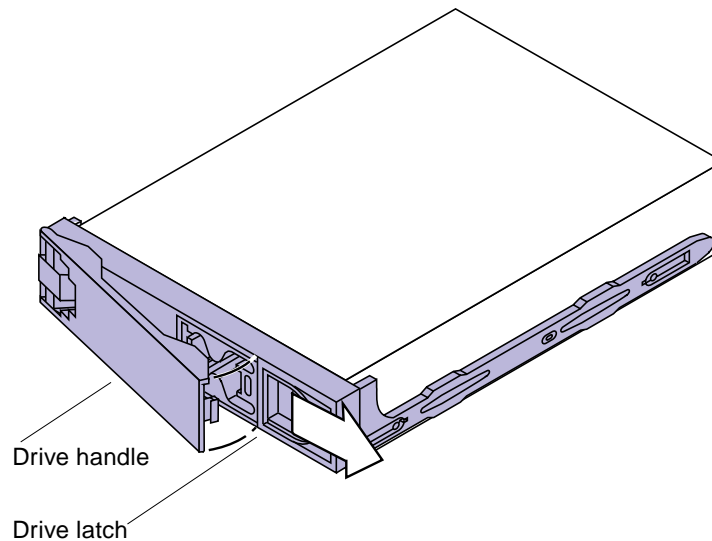

Figure 2-8 Removing the Disk Drive
2. Locate the disk drive(s) that you want to remove (Figure 2-8).
3. Unlatch the drive handle and swing it open (Figure 2-8).
4. Hold the drive handle and pull it out to remove the drive from the chassis (Figure 2-8).